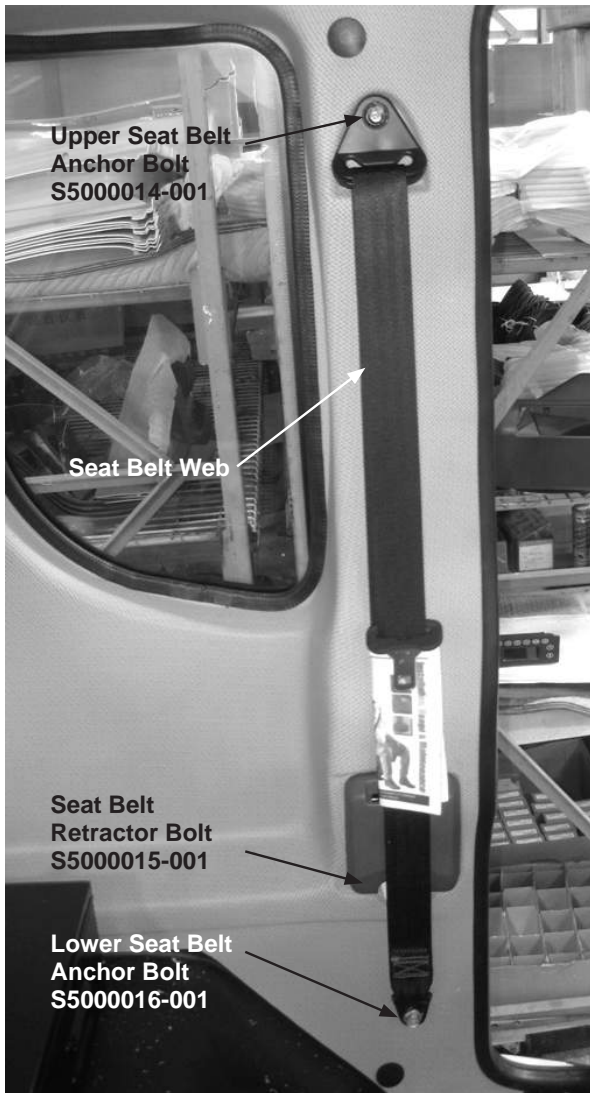

Figure 13-1
1. Remove the seat belt web/anchor and replace with one 1" (guide) washer (GE811637WB01). Set the seat belt web/anchor aside for reinstallation (see Figure 13-1).